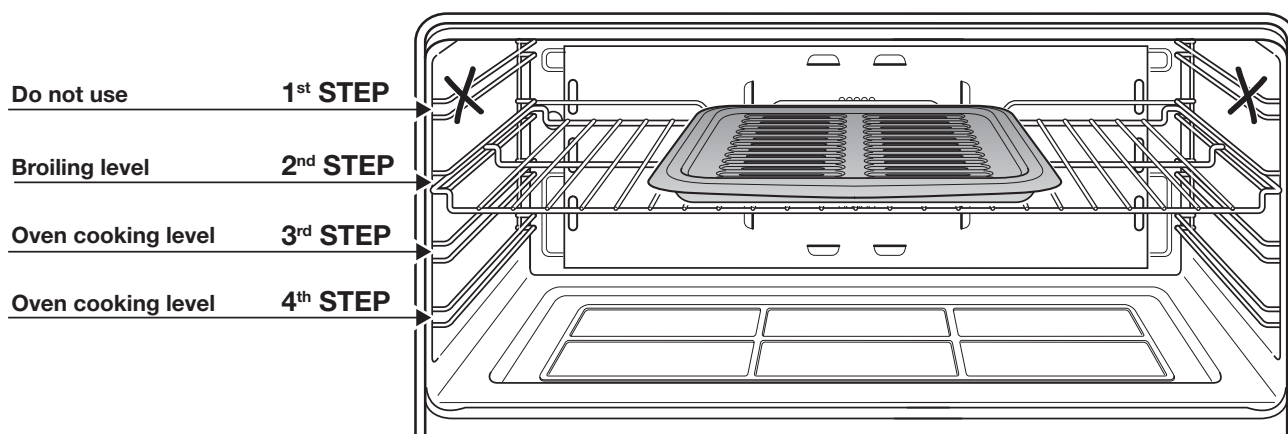
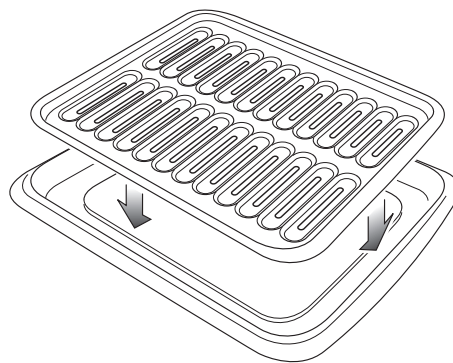

Fig. 3.5
Fig. 3.6
- Position the shelf on the second level from the top (fig. 3.5).
- Introduce the broiling pan (fig. 3.6) in the oven. The broiling pan should be placed above the shelf and it should be centered with the broil element (fig. 3.5).